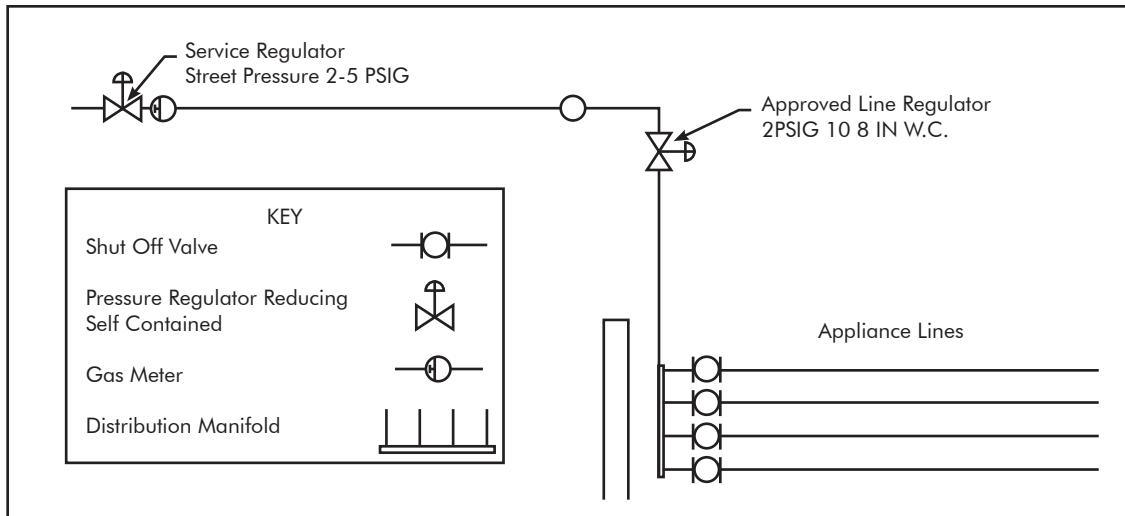

FIG. 2-1 Elevated Pressure System Arrangement
C. Using FIG. 2-1 as a guide, the elevated pressure system can be described as follows: